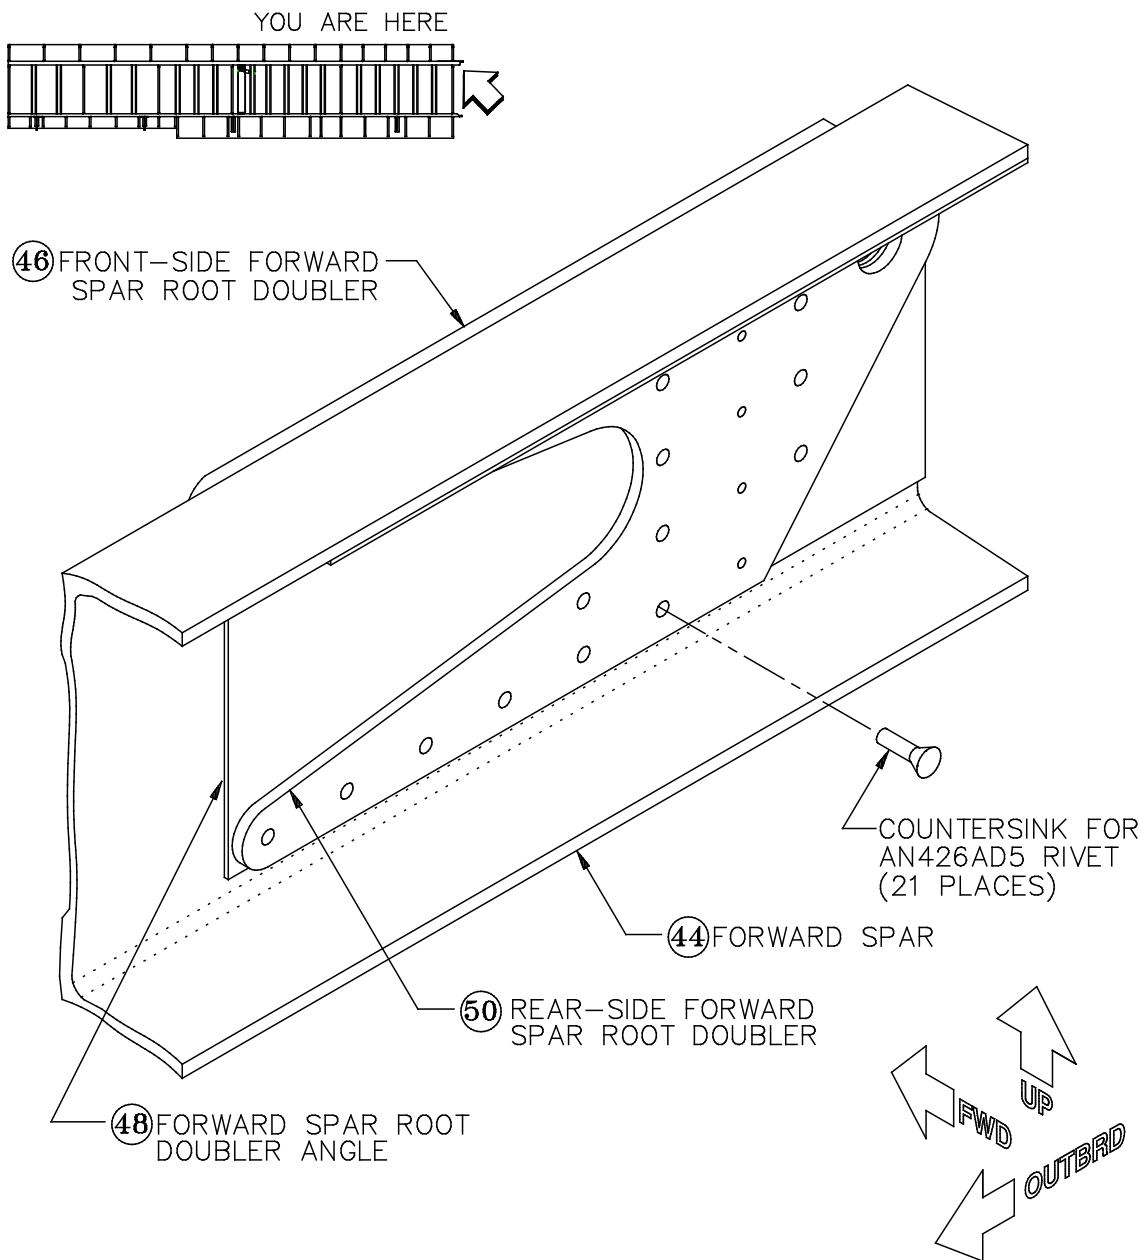

Figure 12: Countersinking the Rivet Holes
- A) Rivet the forward spar root doublers and doubler angle to the forward spar using 5/32" (AN426AD5) flush head rivets. Position the heads of the rivets in the countersinks on the aft side of the spar root doubler. **Do not rivet in the holes where the root rib attaches** (these are the five holes that were not drilled up to 5/32" diameter). See Figure 12.